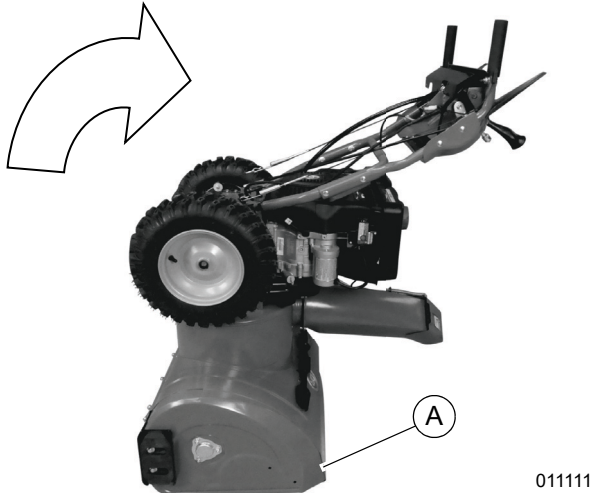

Figure 4-18. Tip Unit
3. See Figure 4-18. With the help of another person, tip snow blower onto auger housing (A).